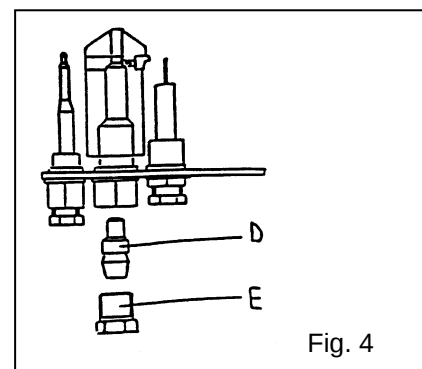

Fig. 4
5.2 Replacing the injector of the pilot flame (Fig. 4)